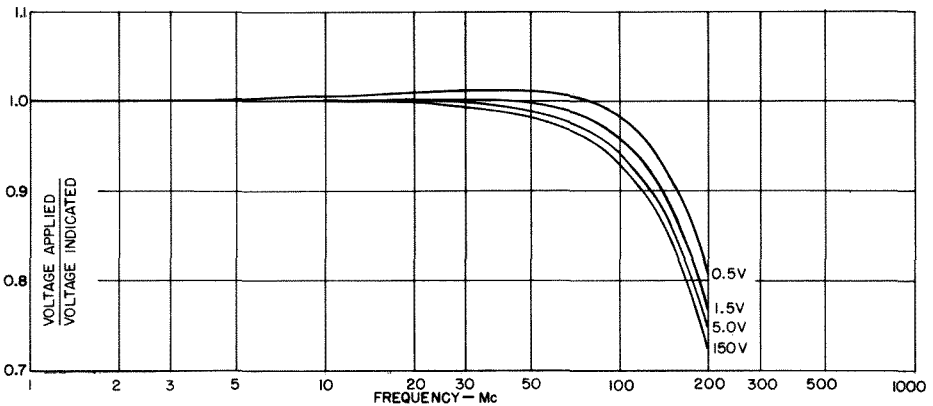

Figure 3. Ratio of Applied Voltage to Indicated Voltage as a Function of Frequency for Various Values of Indicated Voltage.
- ACCURACY:** AC: $\pm 3\%$ of full scale, subject to frequency correction above 50 Mc (see Figure 3). Use of multiplier imposes additional $\pm 1\%$ error.
Figure 3 shows the ratio of applied to indicated voltage as a function of frequency for various values of indicated voltage. At low voltages, transit time and resonance effects tend to cancel, while at higher voltages the error is due almost entirely to resonance. The resonant frequency is about 430 Mc.